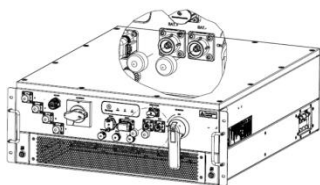

Figure 6-13 Remove the dust caps on the BAT+and BAT- sockets
Step 3: Remove the dust caps on the BAT+ and BAT- sockets, as shown in Figure 6-13.